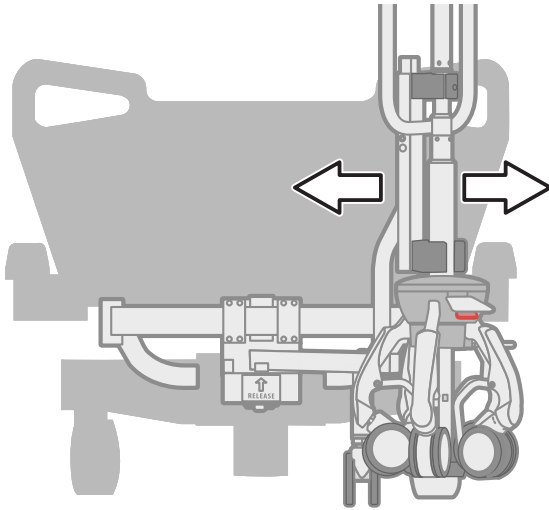

Figure 7. Position the IV Stand
1. With legs retracted and locked, the user is able to move the IV stand anywhere behind the bed (Figure 7).